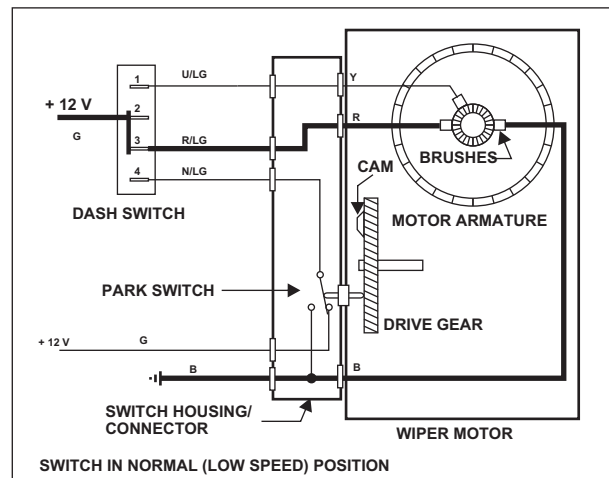
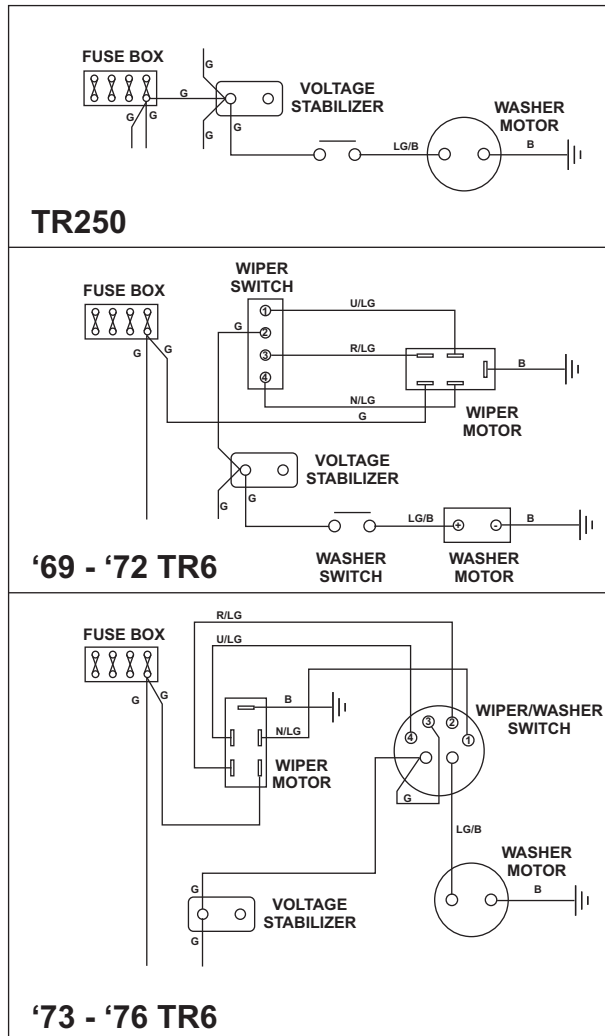

FIGURE 5
FIGURE 15
**NORMAL OPERATION:** Refer to **figure 5**, right. This diagram is for an early TR6, but the principles are the same for the later models, only the physical configuration of the switch has changed (see **figure 15**). In this mode of
The windshield wiper circuit is quite simple, consisting of nothing more than a simple momentary, SPST switch, and the washer motor - push the switch and the washer motor operates, release the switch, and it quits. See **figure 15** below for wiring details.